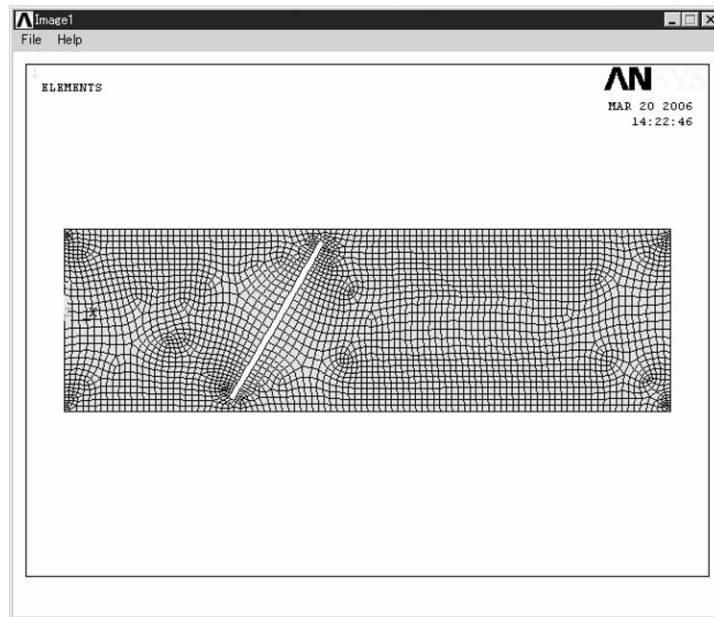

Figure 5.50 ANSYS Graphics window.
- (1) Click **Mesh** on the window **Mesh Tool** and the window **Mesh Areas** opens. Click the channel area on **ANSYS Graphics** window and, then, click **OK** button of the window **Mesh Areas**. Meshed area appears on **ANSYS Graphics** window as shown in Figure 5.50.